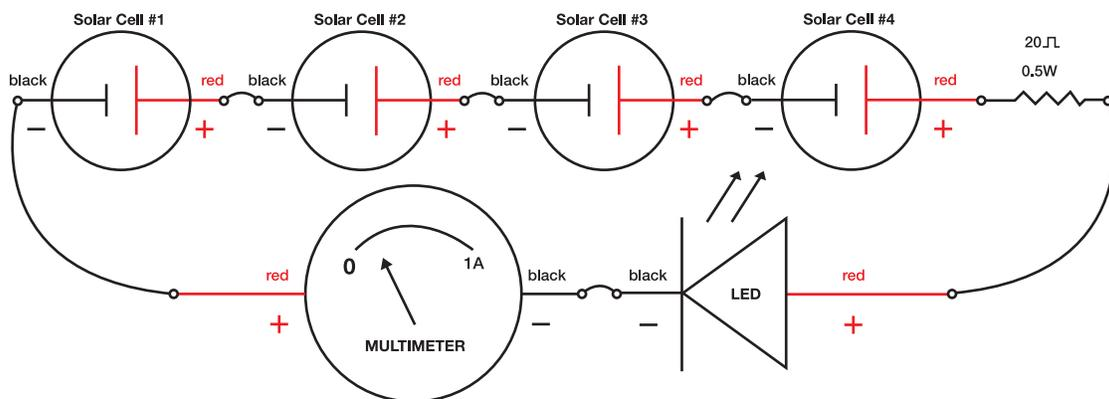

Figure 4. Electrical hookup to measure current.
3. To measure current through the LED, connect the multimeter, LED and solar cells together using alligator clips as follows (see figure 4):